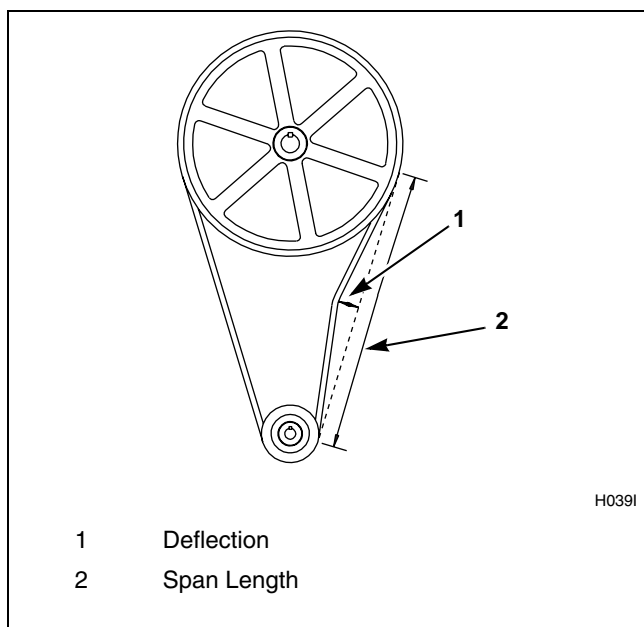

Figure 11
- d. **For variable-speed models only**, verify that V-belts are properly tensioned by applying a set force to the belt and measuring the deflection to determine the belt tension. Refer to *Table 7* for the acceptable belt tension ranges. Belt tension measurements should be taken as close to the center of the belt span as possible. Refer to *Figure 11*.